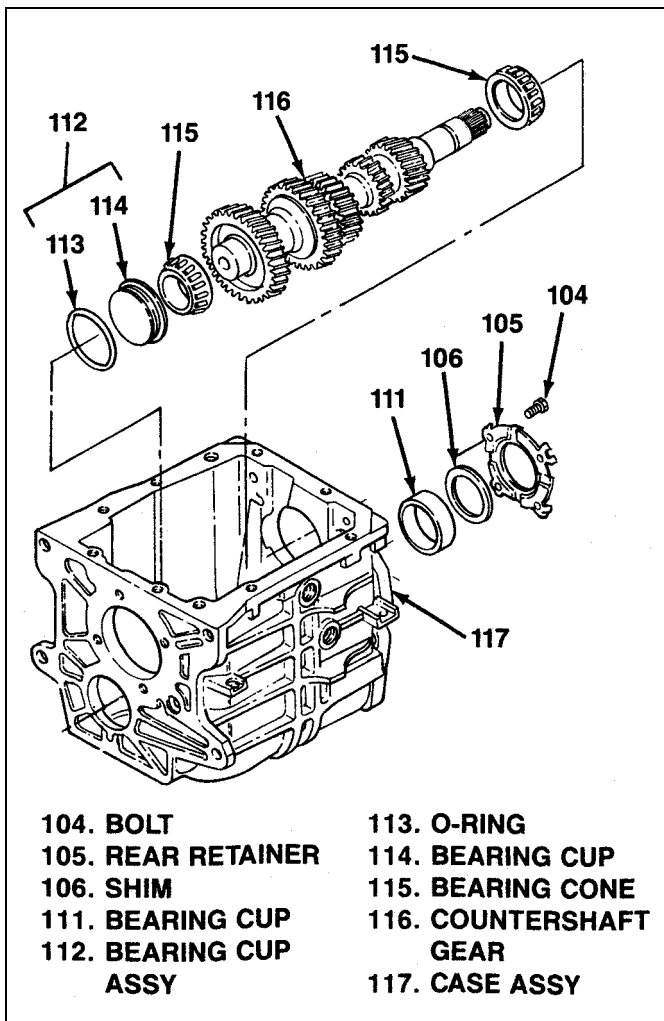
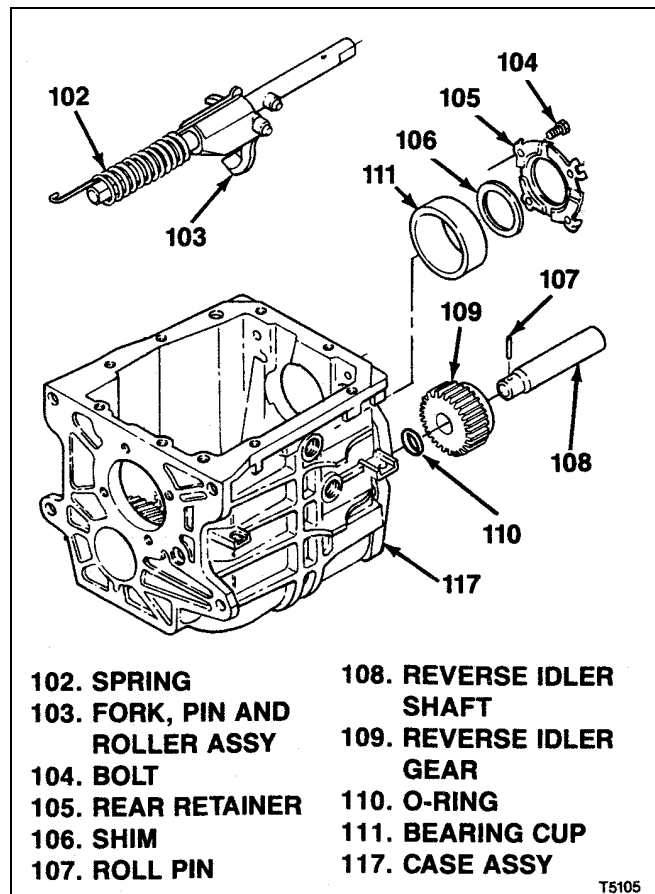
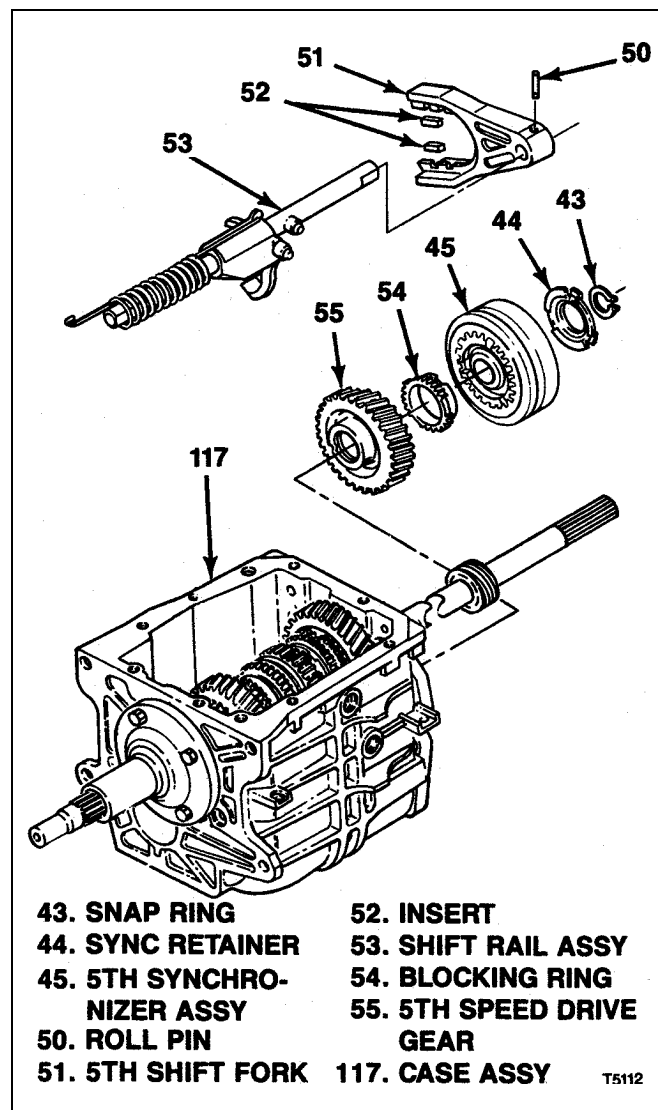

Figure 6-5. T5 WC Countershaft Gear
Figure 6-6. T5 WC Reverse Fork and Idler Gear
Figure 6-13. T5 WC 5th Synchronizer, Shift Fork and Gear
**6-8. ASSEMBLY AND INSTALLATION OF T5 WC COUNTERSHAFT GEAR** (see figure 6-5):
- If replaced, press bearing cones (115) on countershaft gear (116) using suitable tubular drift that contacts only bearing cone inner race. Press on bearing cones to bottom out on shaft shoulders.
- Install O-ring (113) in groove in OD of bearing cup (114) and press cup into transmission case until cup flange seats against inside face of case.
- Install countershaft gear (116), with bearing cones (115) through top opening of transmission case (117), rear end first. Extend rear end of countershaft gear through rear case opening enough to seat front end bearing cone in bearing cup (114).
- Temporarily install bearing cup (111) and attach rear retainer (105) with bolts (104).
- Using dial indicator, manually move countershaft gear (116) back and forth using firm hand force and measure end play. Record end play as dimension C.
- Calculate Tc, thickness of shim (106) required, as follows:
**6-9. INSTALLATION OF T5 WC REVERSE FORK AND IDLER GEAR.** With assembly completed as described through paragraph 6-8, proceed as follows (see figure 6-6):
- Start reverse idler shaft (108) in through rear opening in transmission case (117) with pin hole in shaft pointing up toward top case opening.
- Position o-ring (110) and reverse idler gear assembly (109) in transmission case (117) and continue to push reverse idler shaft into case, through gear, o-ring and boss inside case.
- Install roll pin (107). Using suitable drift, tap pin into reverse idler shaft (108) until pin is centrally located in shaft.
- Install bearing cup (111) with shim(s) (106) selected in paragraph 6-8.
- Attach rear retainer (105) with bolts (104). Torque bolts to 15 lb-ft (20 Nm).
- If countershaft end play is within limits, bend tabs on rear retainer (105) up, against flats on head of bolts (104).
- Hook long end of spring (102) into fork, pin and roller assembly (103) and position these parts in transmission, engaging fork with groove in reverse idler gear (109).
**6-15. INSTALLATION OF T5 WC 5TH GEAR, SHIFT FORK AND SYNCHRONIZER.** At rear of transmission, install parts as follows (see figure 6-13):
- a. Install 5th speed drive gear (55) and blocking ring (54) on end of countershaft gear (116, figure 6-5).
- b. Attach 5th shift fork (51) to shift rail assembly (53) with roll pin (50). Install inserts (52) on 5th shift fork.
- c. Engage 5th shift fork (51) with previously assembled (paragraph 6-7) 5th synchronizer assembly (45) and install together in transmission noting the following:
2. Guide shift rail assembly (53) through reverse fork, pin and roller assembly and spring (103 and 102, figure 6-6) previously installed.
- a. Install 5th synchronizer retainer (44) and snap ring (43).
- Work 5-R shift lever (42) into engagement with rollers on previously installed shift rail assembly (53, figure 6-13) and fork, pin and roller assembly (103).
- From outside transmission install pivot pin (40) through case and 5-R shift lever (42). Torque pin to 20 1lb-ft (27Nm).
- Inside transmission, attach lever to pin with retaining ring (39).
- Install back-up switch (41).
- Using needle nose pliers, hook free end of previously installed spring (102, figure 6-6) on pin in transmission case (117).